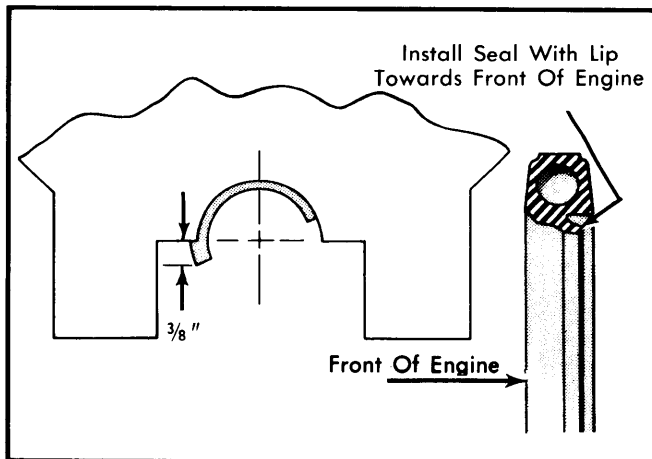

Fig. 10 Split Lip Type Rear Main Bearing Oil Seal
2) Remove oil seal retaining pin from bearing cap (if equipped). Discard pin. Dip seal halves in engine oil. Install upper seal in groove with undercut side of seal toward front of engine by rotating it on seal journal until $\frac{3}{8}$ " protrudes below parting surface. See Fig. 10. Tighten main bearing cap bolts.